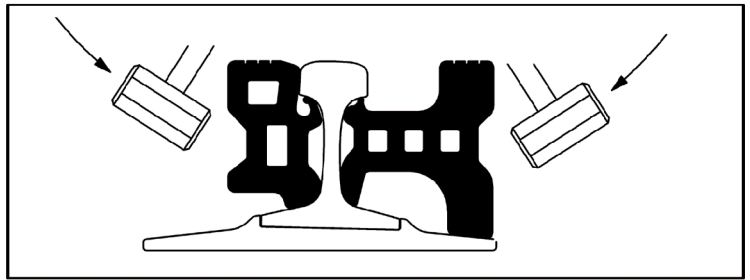

Figure 1
- 1 Place and seat Rubber Interface into web of rail with a sledge hammer (Fig. 1)